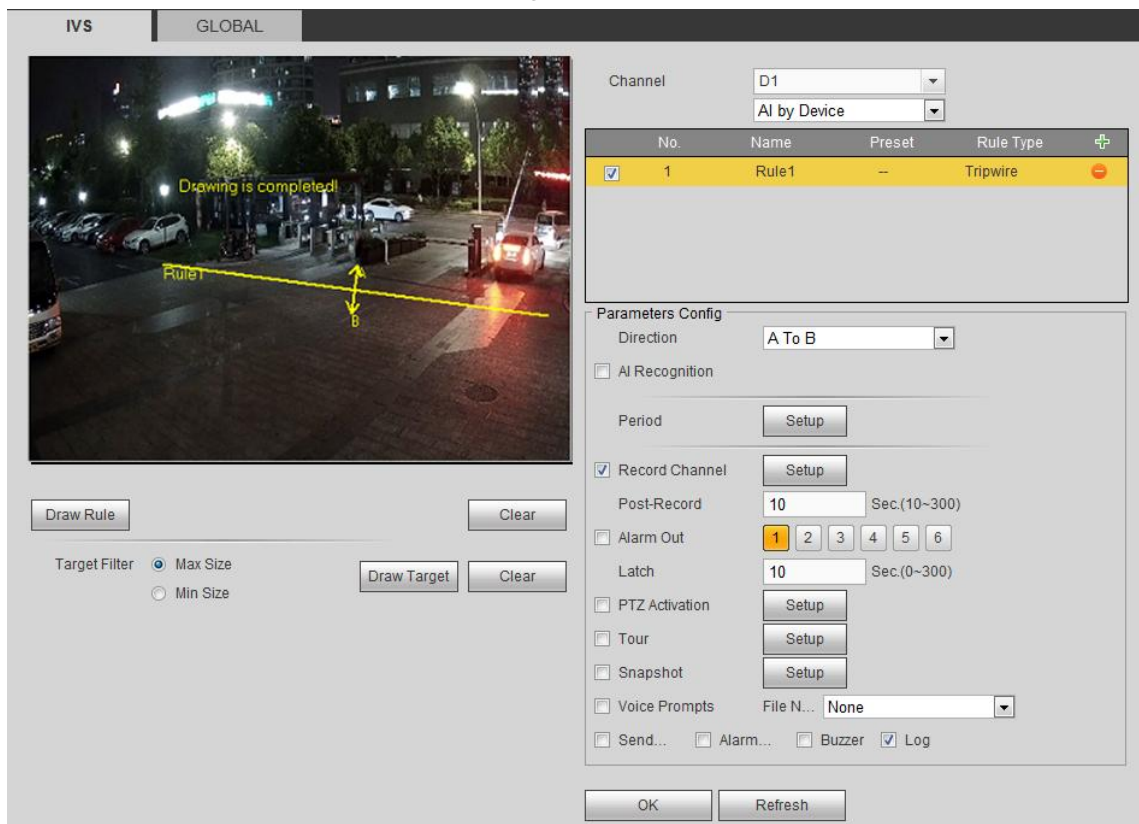

Figure 5-69
- When you select AI by device, the system displays as Figure 5-69.